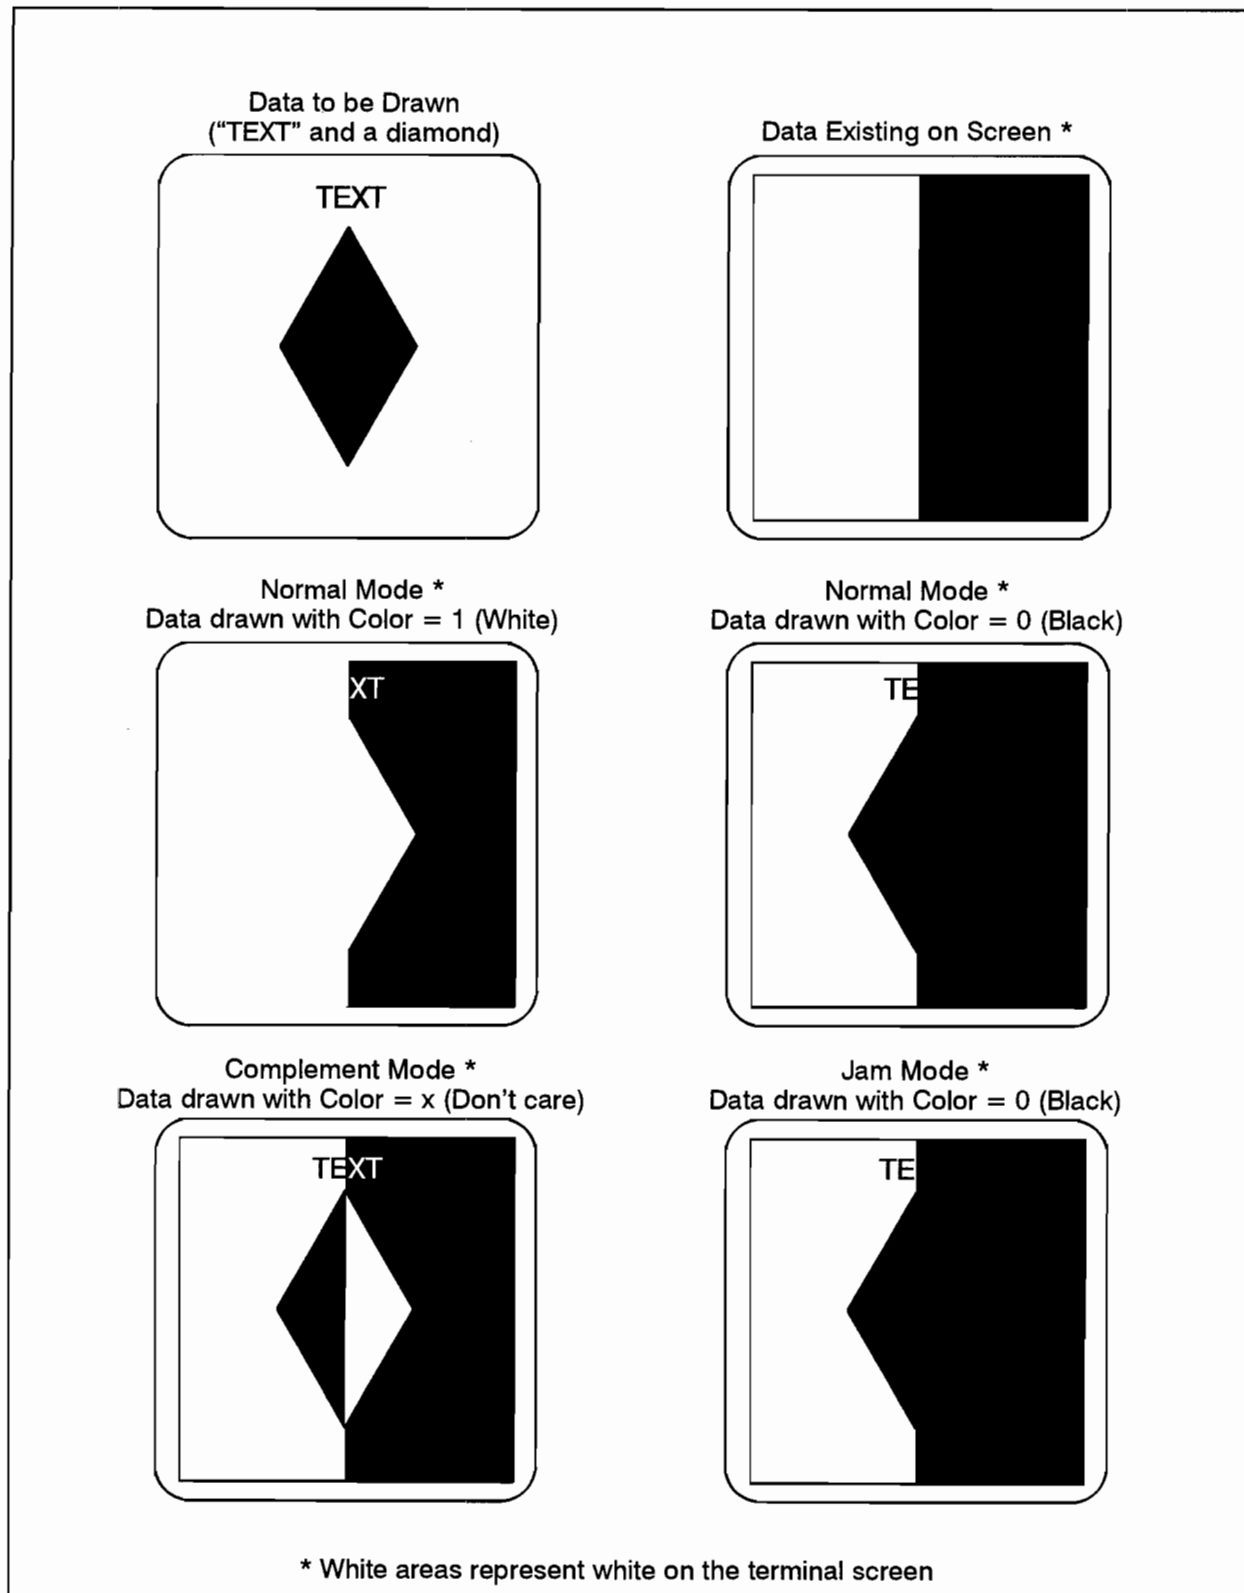

Figure 5. Special Drawing Modes
- 1056 Set special drawing modes. This escape function overrides the color as defined by the JCOLR call. After generating output primitives in a special drawing mode, the application program can terminate the special drawing mode by making any call to JCOLR. See Figure 5 for the effect of color and the special drawing modes.